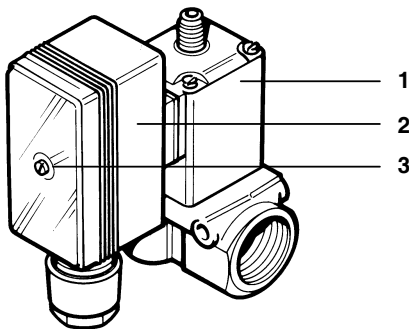

Abb. 12 Solenoid valve with timer
- **Prior to first operation** or operation subsequent to repair work operate unit for at least 10 minutes with open condensate valves (pressureless) to ensure proper lubrication of all parts before pressure is built up. To keep drain valves open, loosen screw (3, Abb. 12) on coil (1) and pull timer (2) from solenoid valve.